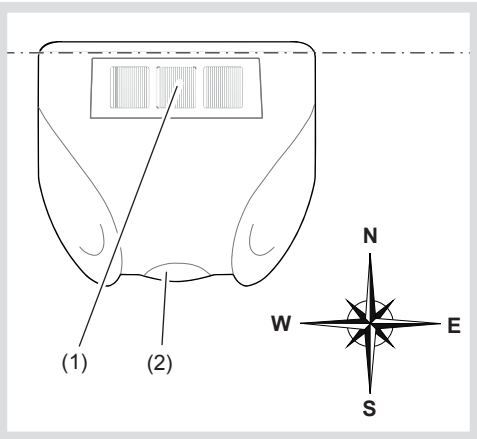

Figure 3: Aligning the device horizontally and to face south
- Horizontal installation on the outside of buildings (figure 3), preferably in the roof and facade area
Use a compass to align the device to the south (figure 3).
Use a spirit level to align the device horizontally (figure 3).